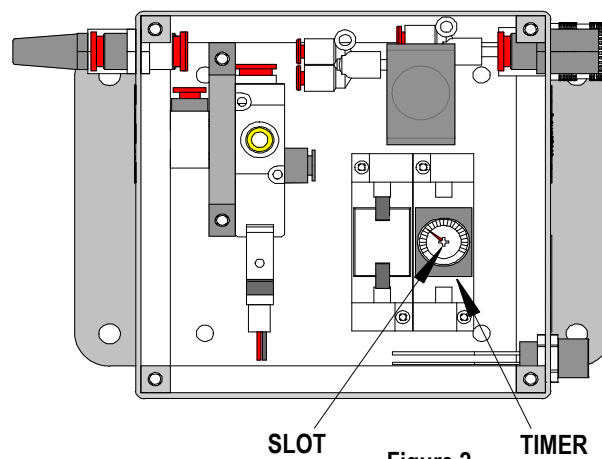

Figure 2
6. To change the cycle time, the timer has to be readjusted. This is done by removing the (4) screws on the top cover. Place the cover aside and locate the timer. See Figure 2. Using a Phillips screwdriver insert it in the slot on top of the timer. Turn the timer clockwise (CW) to increase time or counterclockwise (CCW) to decrease time. The dial can be turned by hand if a screwdriver is not available. Place the cover back and re-install the (4) screws.
9. To stop the cycle before complete, push the emergency stop button. To reset, rotate the button clockwise (CW) as indicated by the arrows on the button.